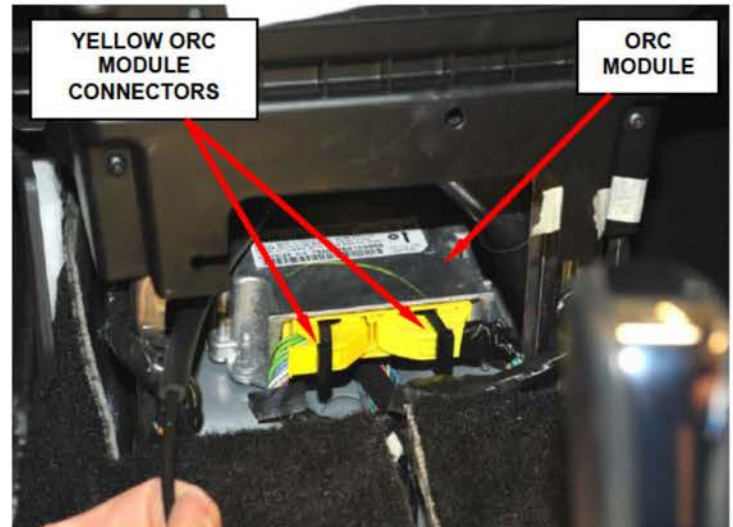

Figure 6 – ORC Module Yellow Electrical Connectors
9. Disconnect the two ORC module yellow electrical connectors from the ORC module (Figure 6).
14. Connect the two yellow ORC module connectors to the new ORC module (Figure 6).